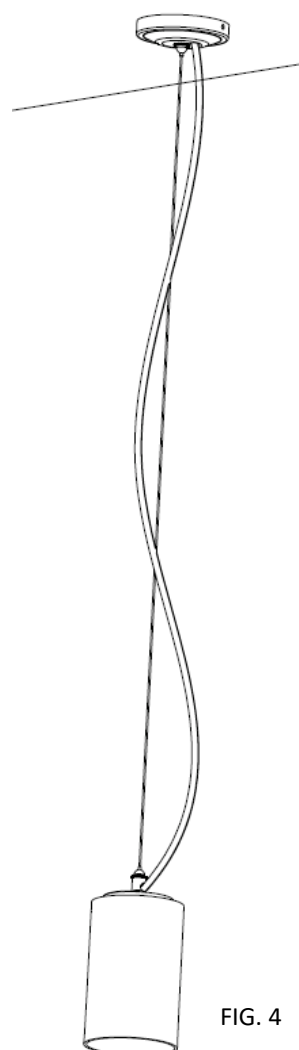

FIG. 4
- Neaten the wire to the suspension cable if needed (Fig. 4)